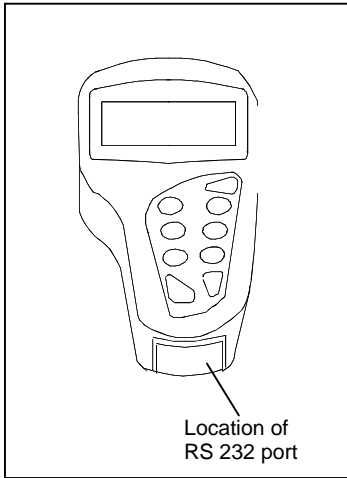

Figure 10: The CyberScan CON 200 RS 232 port
- a) Open the communication port cover located at the bottom of the meter as shown in Figure 10. Do not use excessive force when doing this.